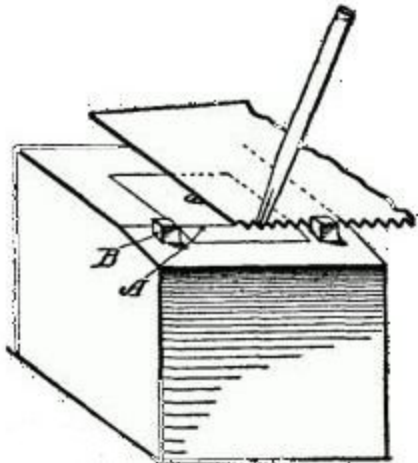
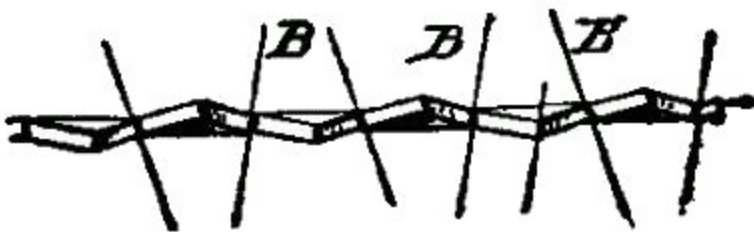

Fig. 11.
Fig. 12.
Our illustration (Fig. 11) shows a very simple setting block, the principal merit of which is that any boy can make it, and in the use of which he cannot go wrong in setting a tooth.
FILING ANGLES.—In its proper place will be shown how you may easily calculate and measure degrees in work of this kind. Fig. 12 shows an approximation to the right angle. B, B (Fig. 11) should be a pair of wooden pegs, driven into the wooden block on each side of the metal piece. The teeth of the saw rest against the pegs so that they serve as a guide or a gage, and the teeth of the saw, therefore, project over the inclined part (B) of the metal block. Now, with an ordinary punch and a hammer, each alternate tooth may be driven down until it rests flat on the inclined face (A), so that it is impossible to set the teeth wrongly. When you glance down the end of a properly set saw, you will see a V-shaped channel, and if you will place a needle in the groove and hold the saw at an angle, the needle will travel down without falling out.